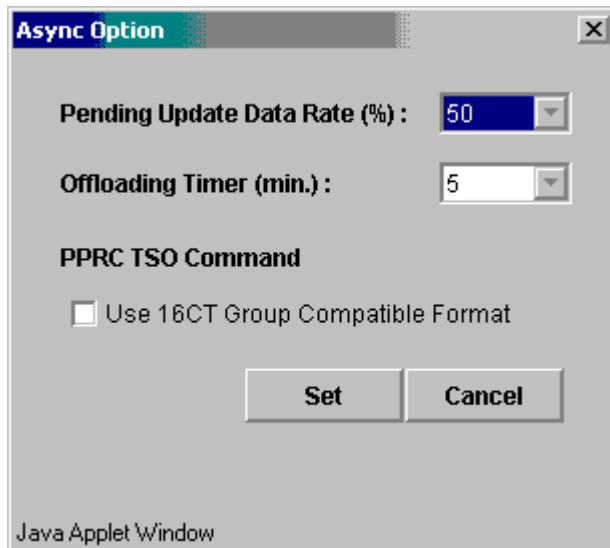

Figure 4.27 Async Option Panel
The Async Option panel (see Figure 4.27) allows you to set and modify the TrueCopy - S/390[®] Asynchronous copy option parameters for the connected subsystem. To open the Async Option panel, right-click on the CT groups and select the **Async Option** command.
2. Right-click on the CT group list (you do not need to select anything), and select **Async Option** to open the Async Option panel (refer to Figure 4.27). The async options can only be modified when no TrueCopy - S/390® Asynchronous pairs or groups exist in the connected CU (M-VOLs or R-VOLs).